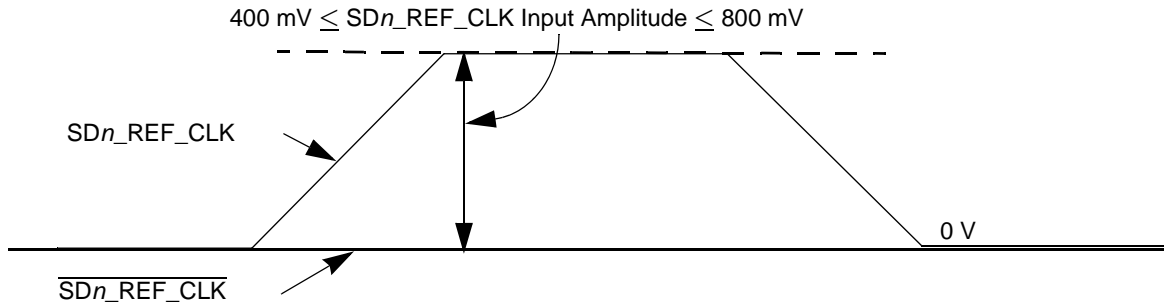

Figure 47. Single-ended reference clock input DC requirements
- The SDn_REF_CLK input average voltage must be between 200 and 400 mV. Figure 47 shows the SerDes reference clock input requirement for single-ended signaling mode.